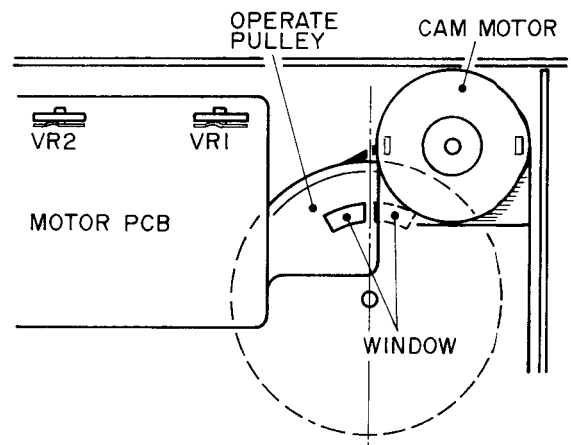

Fig. 8-2 Position of Operate Pulley in STOP Mode
- b. Adjust VR1 slightly so that a center line between windows of the operate pulley will face directly above during STOP Mode. (Fig. 8-2)